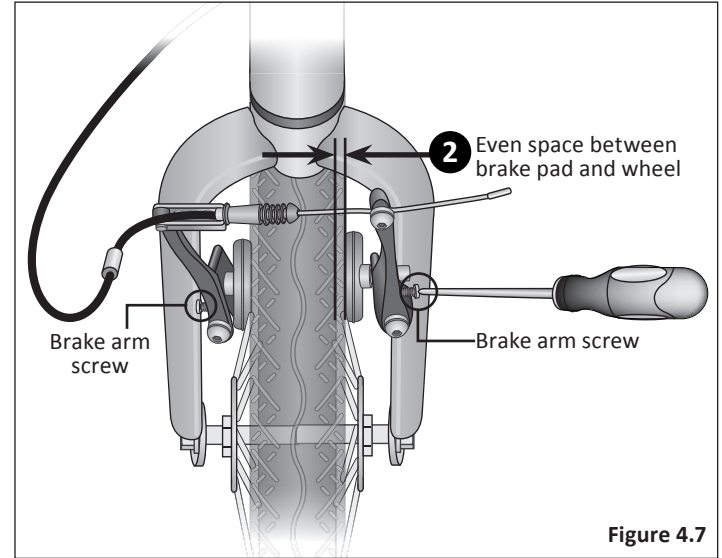

Figure 4.7
- Using a phillips head screwdriver, adjust the brake arm screws on either side of the brake arm. **Note:** Turning the screw *clockwise* moves the pad away from the rim. Turning the screw *counterclockwise* moves the pad towards the rim. **Figure 4.7**